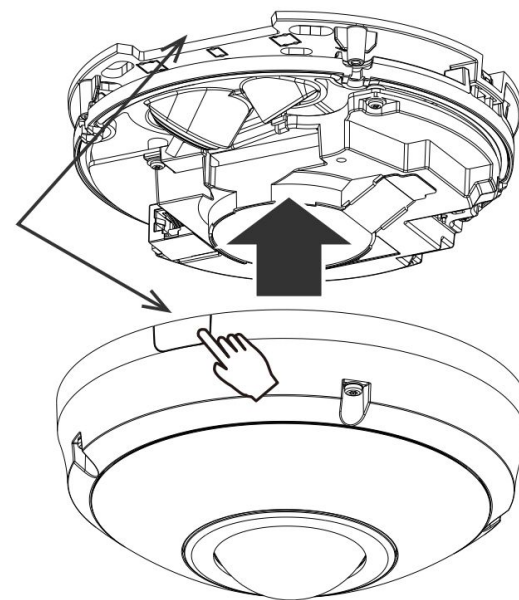

Figure 1-7
Step 7 Replace the dome cover, while making note of its alignment. See Figure 1-7.